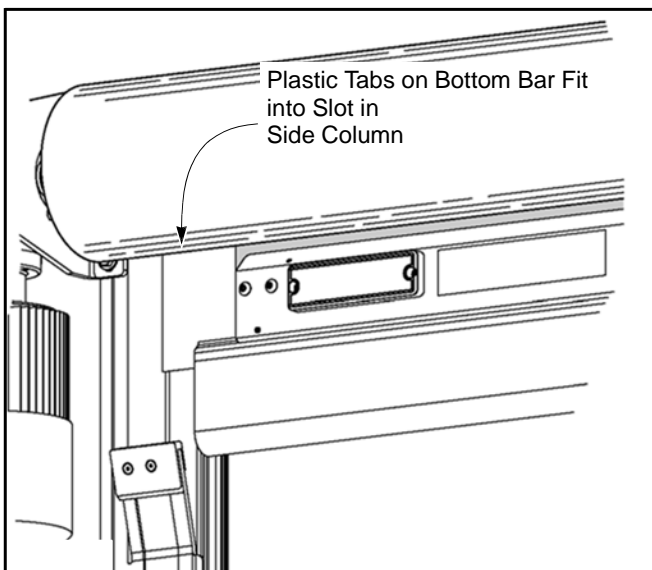

Figure 23
3. Insert the plastic tabs on the bottom bar into the slot of each side column. (See Figure 23.)